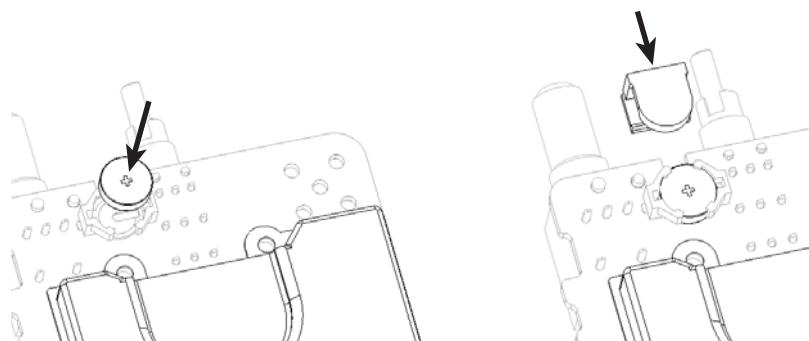

Figure 41. Reassemble the Backup Battery
1. Insert the backup battery (positive side up) into the battery holder, as shown in Figure 41.